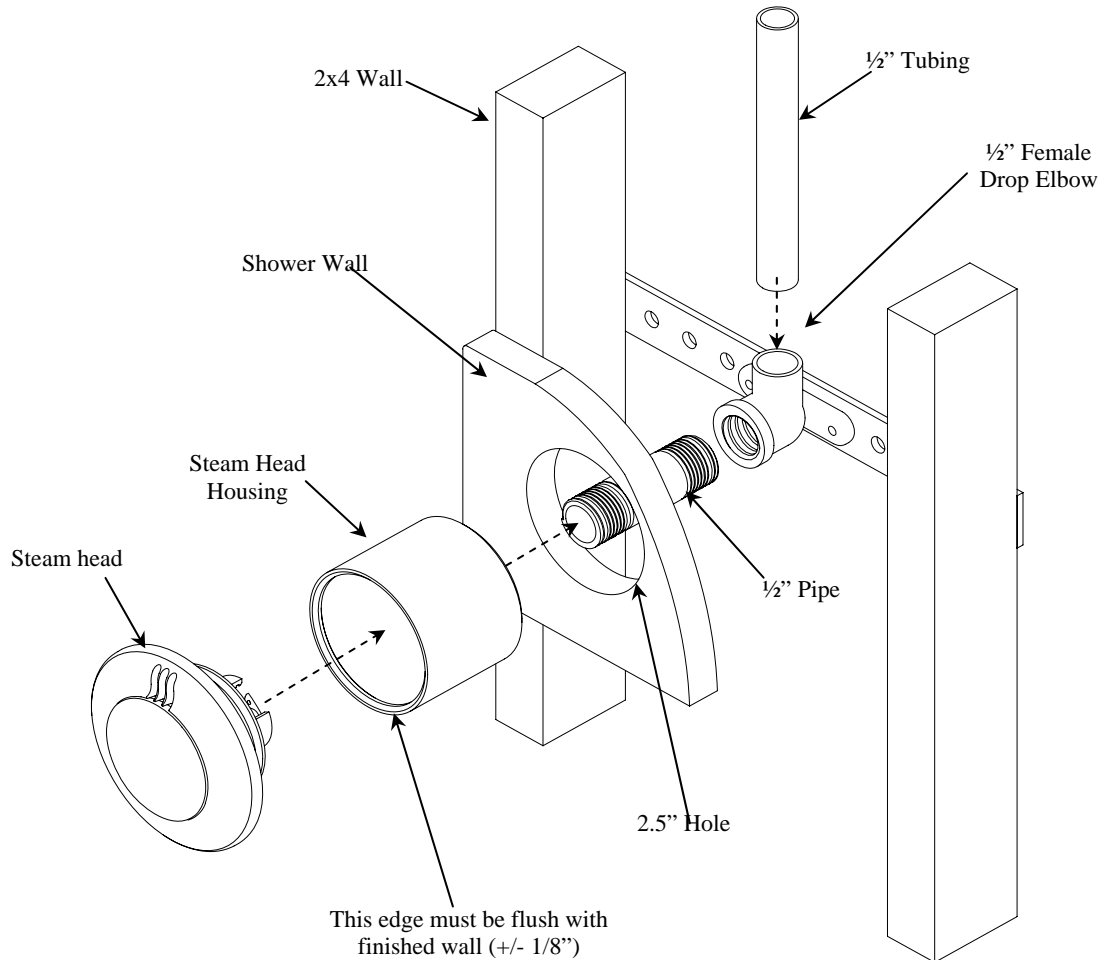

Figure 5
2. Connect a ½" NPT brass pipe or tubing to the steam outlet on the generator run the pipe to the 2.5" hole in wall to connect with the steam head housing, use figure 5 as a guide. **It is very important that the pipe is firmly secured to the wall, so that when the steam head is installed it doesn't push the housing back into the wall.** The steam line can run up, down, or horizontal; **but cannot run down and then up.** If it does, a steam trap may be produced at the low point blocking the flow of steam. Install a ½" drop elbow on the end of the ½" pipe or tubing for the steam head housing. For all the connections, use Teflon tape/solder and do not over tighten fittings. **DO NOT USE PVC CEMENT.**